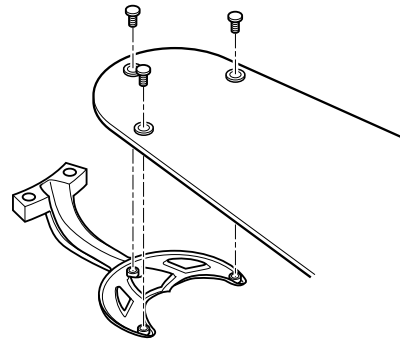
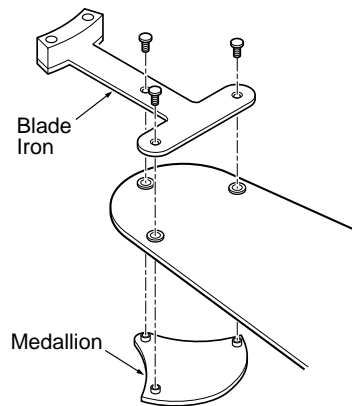

Figure 7b - Attaching Fan Blade to Blade Iron
Figure 7c - Attaching Fan Blade to Blade Iron using Decorative Medallion
2. Attach each blade to blade iron using three blade assembly screws as shown in Figure 7b. Some fans feature a decorative medallion as well as a blade iron. Insert the assembly screws into the blade iron, through the blade and into the medallion, with the blade sandwiched between the blade iron and medallion as shown in Figure 7c.